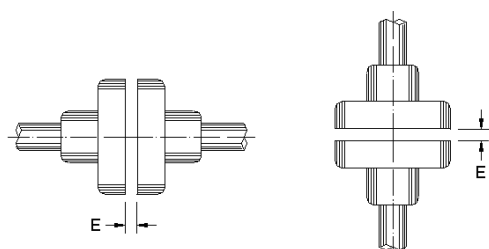

Figure 4.10: Axial clearance of the coupling (E)
Align the shaft ends carefully, and, whenever possible, use flexible coupling, leaving a minimum clearance (E) of 3 mm between the couplings, as shown in Figure 4.10.